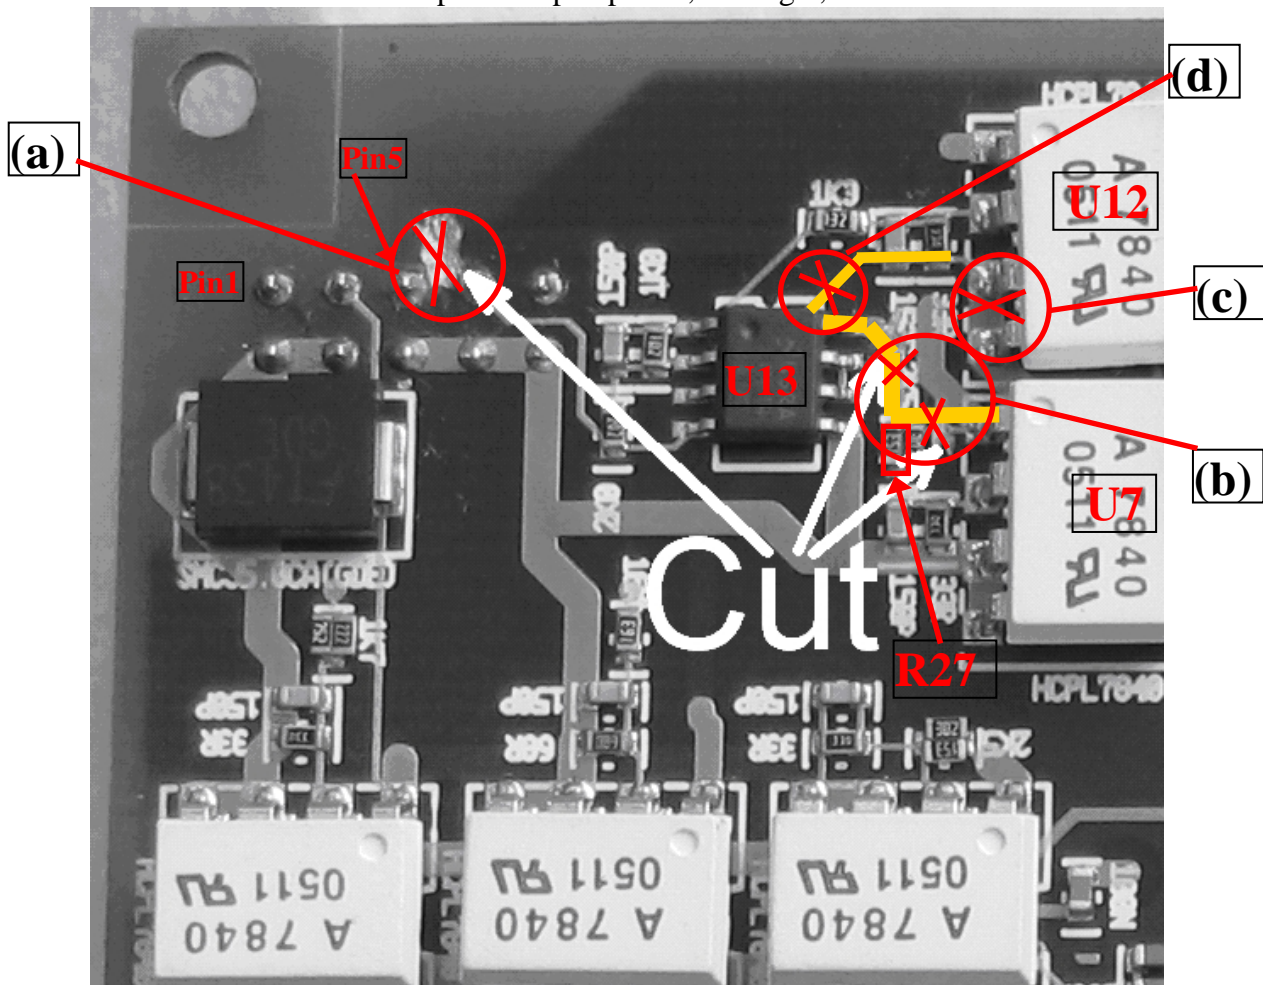

Fig.3: Bottom side photos of ELMB_MBv6.5. Cutting traces on bottom side.
- (a) Cut +5VMB pcb trace from pin5 on connector J12 on the ELMB_MB bottom side, see Fig.3. The pcb trace is under the surface level, so a milling cutter has to be used.
- (b) Cut two traces, between R27 and pin1 of U7 isolation amplifier, and pcb path between R27 and pin8 of opamp U13, see Fig.3, 4.
- (c) Cut trace between pin3 and pin4 of U12 isolation amplifier, see Fig.3, 4.
- (d) Cut trace going to gnd from C22 and R38, see Fig.3, 4.
Fig.4: Bottom side component placement detail of ELMB_MB_v6.5, as shown as a photo in Fig 3. Marked components related to procedure 3 a – d are in red color: U13, C22, R38, R27, U12, and U7.